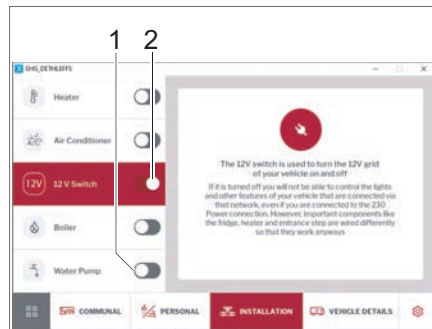

Fig. 263 12 V and water pump
- Use the switch (Fig. 263,2) to switch the vehicle's 12 V supply on and off. A note will appear indicating which consumers are affected by this.
- Use the switch to turn the water pump (Fig. 263,1) on or off. Also see Chapter 9.14.5.